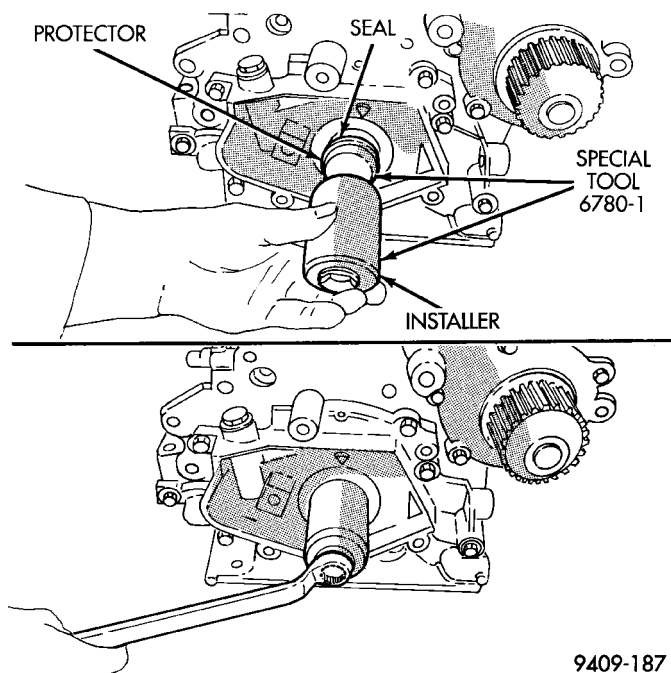

Fig. 76 Front Crankshaft Seal—Installation
(5) Torque all oil pump attaching bolts to 28 N-m (250 in. lbs.)
(6) Install new front crankshaft seal using Special Tool 6780 (Fig. 76).